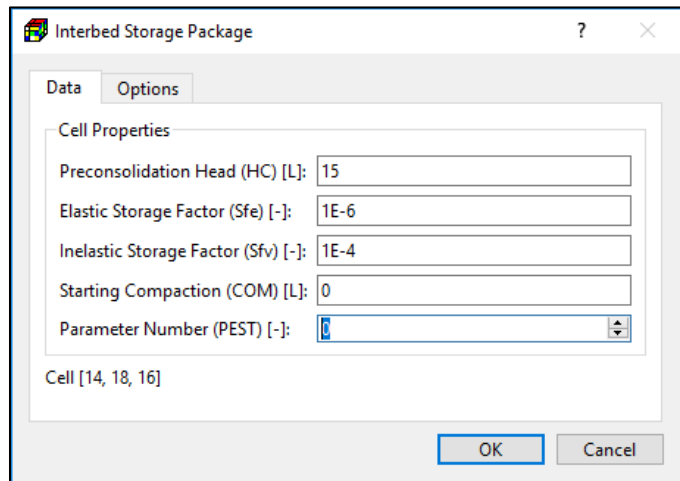

Figure 62. The Interbed Storage Package dialog box
1. **All input methods:** Figure 62 shows the dialog box for specifying cell, vertex, or polygon properties.
- **Preconsolidation Head (HC) or Critical Head [L]:**